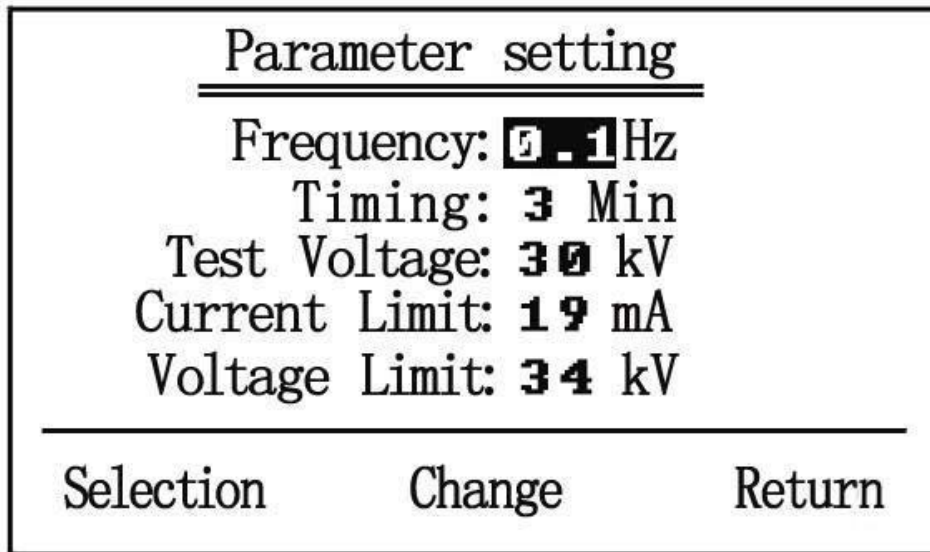

Figure 5 (Limit setting interface)
After completing the wiring of all the circuits in the method motioned above, the power switch can be put on. The instrument will automatically enter into the limit setting interface as shown in figure 5 when the microcomputer is electrified and reset. The power shall be shut-down on wiring, removal of lines
On limit setting interface as shown in figure 5, the user can set output frequency, test time and voltage, overcurrent protection value on high-voltage side and overvoltage protection value according to test requirement. The modification methods are as follows:
- (A) Click “Boost” key, the instrument will enter into automatic boost procedure.
- (B) Click “Setting” key, the instrument will return to set limit sub-interface as shown in figure 5 to re-modify parameter.
- (C) Click “Check” key to check the test data in the last nine times.